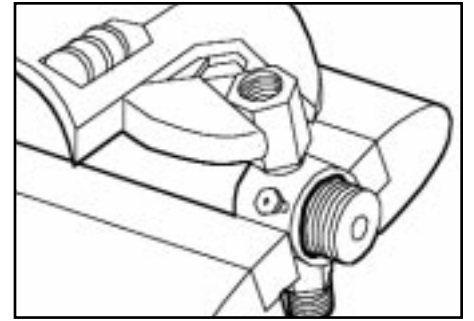

Figure 30
7. Use an adjustable wrench to remove the discharge check valve from the fluid cylinder and Teflon O-ring. (Fig.30 & 31)
8. Remove the suction check valve from the fluid cylinder and Teflon O-ring.(Fig. 30 & 31)